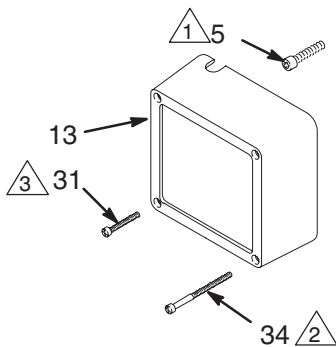
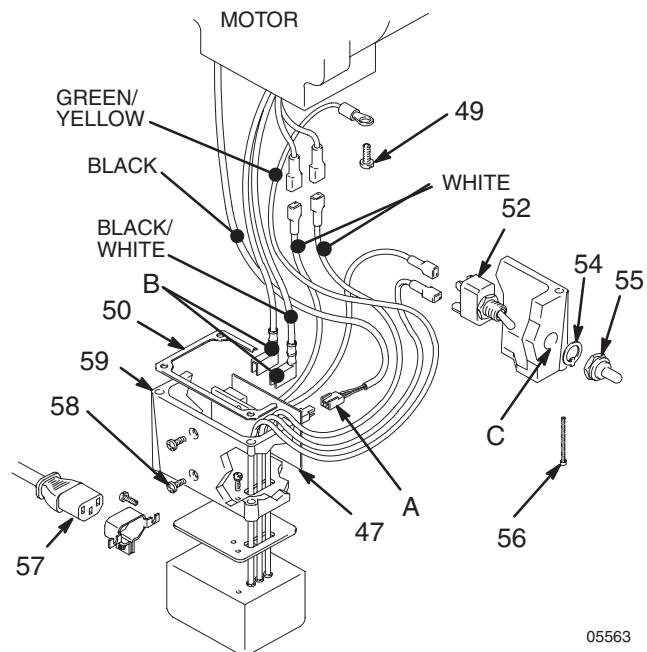

Fig. 22
Fig. 23
NOTE: See Fig. 22 except where noted.
3. Remove the screws (56) and lower the junction box (59). Disconnect the motor wires and the pressure control wire (A) from the motor start board. Refer to Fig. 23 on page 24.
4. Remove the front cover (13).
5. Turn the displacement pump rod (107) so the pin hole aligns with the bottom drive housing screw (5). See Fig. 21. Remove the three drive housing screws (5). Also see Fig. 22.
6. Remove the two motor screws (5).
7. Tap the lower rear of the drive housing (11) with a plastic mallet to loosen the motor. Pull the drive housing straight off the motor while guiding the harness (A) from the motor. Do not allow the gear (16) to fall. Read the CAUTION on page 25.
8. Remove the two screws (46) and lift the motor off the base (66).
9. Align the new motor with the base and reinstall the screws (46).
11. Connect the wires in the junction box. Refer to Fig. 23 on page 24. Install the junction box.
12. Connect the piston rod (107) to the drive housing; see page 22, **Installing the Pump**, Step 2 and the **WARNING** following it.
NOTE: See Fig. 23 for this procedure.